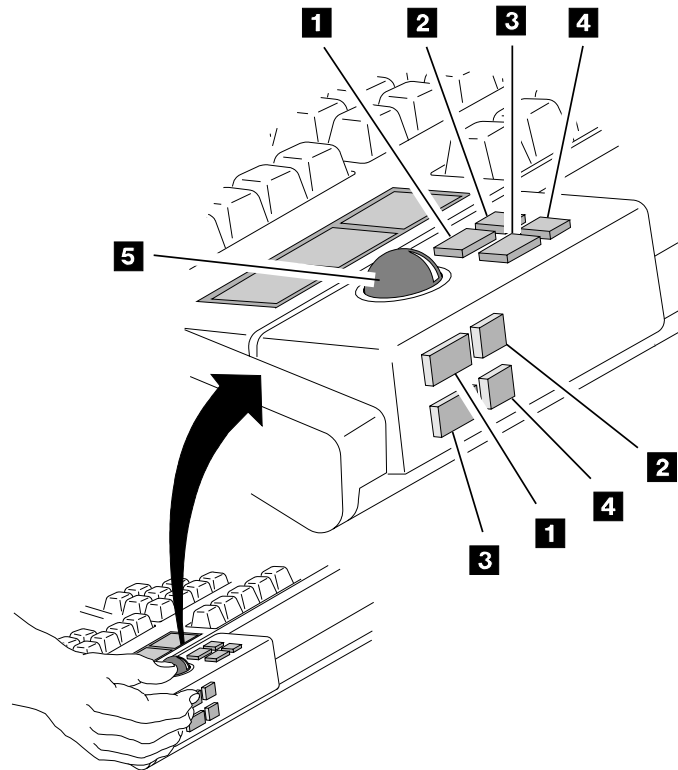
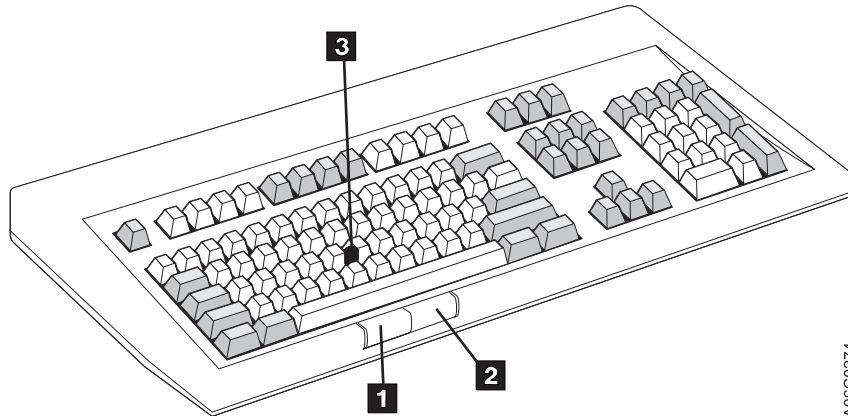

Figure 38. Pointing Device
Figure 39. Track Pointer Keyboard
Figure 38 on page 93 shows the commonly used keys.
There are two types of keyboard available. One has a trackball pointing device, as shown in Figure 38 on page 93. The other has a red button (trackpoint) in the middle of the keyboard as shown in Figure 39 on page 94.
1. Gently press the track point (**3** in Figure 39 on page 94) in the direction you desire the pointer to move and position the pointer on the object.
2. Press and quickly release button **1** in Figure 39 on page 94. This action selects an object and is referred to as “clicking on an object”.
3. Press and quickly release button **1** in Figure 39 on page 94 twice to initiate the selected item. This action is referred to as “double-clicking on an object”.
1. Gently press the trackpoint (**3** in Figure 39) to position the pointer on the object.
2. Press and hold button **1** in Figure 39 down.
3. Gently press the trackpoint (**3** in Figure 39) to move the object. This action is also referred to as “dragging an object”.
Note: Button **2** in Figure 39 is not used.